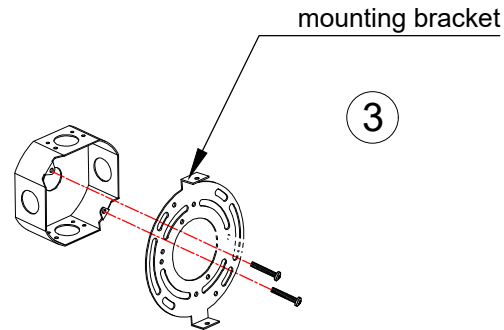

Fig.2
3. Secure mounting bracket to junction box and gently pull wires from junction box out through center hole. **(Fig. 2)**